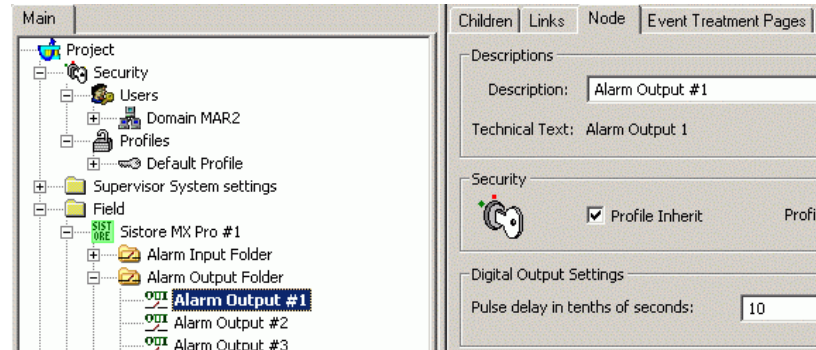

Fig 24 Configuring SISTORE alarm outputs
5. Set the **Pulse duration in tenth of sec** (Fig 24).